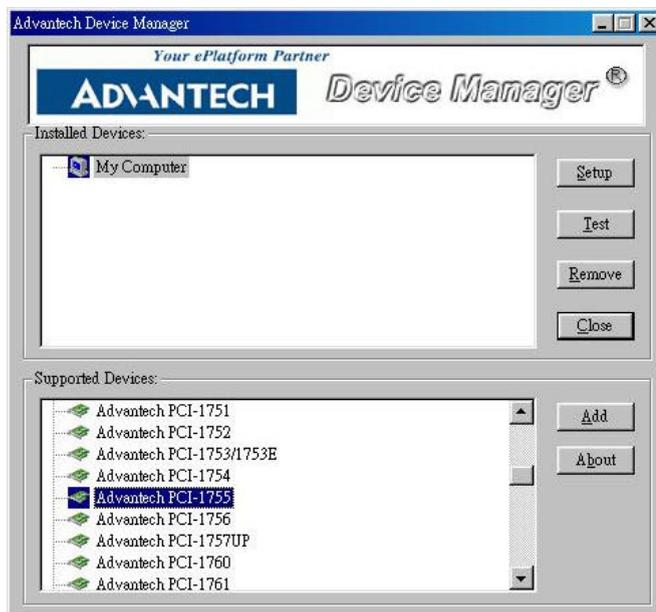

Fig. 2-4 The Device Manager dialog box
Step 2: You can then view the device(s) already installed on your system (if any) in the *Installed Devices* list box. Since you haven't installed any device yet, you might see a blank list such as the one below (*Fig. 2-4*).